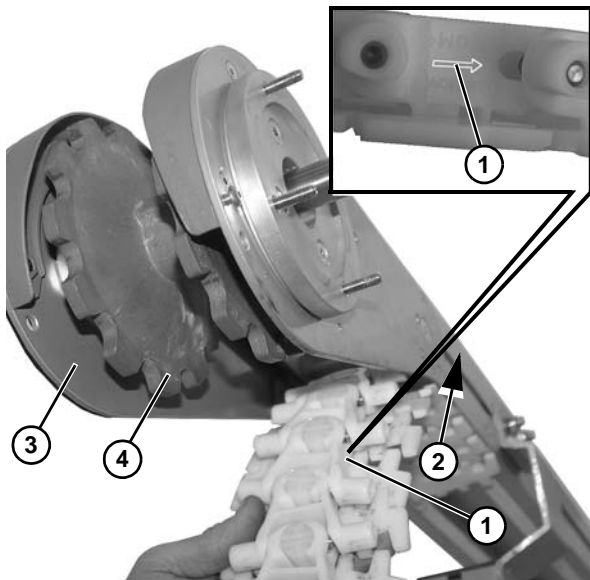

Figure 19
2. Install the belt with direction arrow (Figure 19, item 1) pointing in direction of belt travel (Figure 19, item 2). Install belt from under tail end (Figure 19, item 3) and onto cogs (Figure 19, item 4) of shaft.